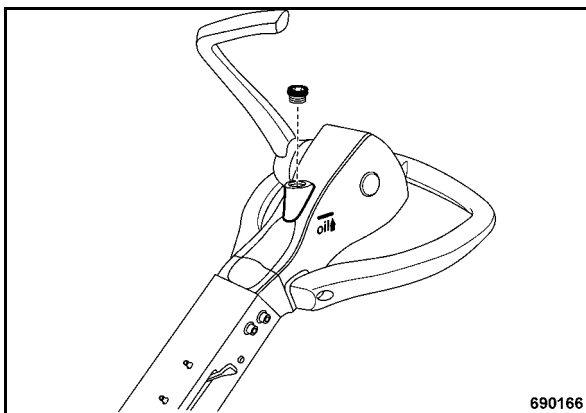

Fig. 76
- Adjust the steering rod with height adjustment (Fig. 76) so that the area with the level inspection plugs is horizontal.